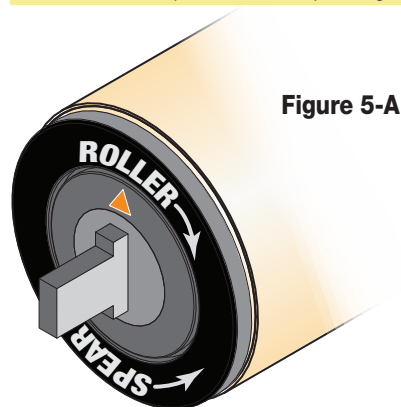

Figure 5-A
1. Orient the triangular shaped arrow on the end of the device to point UP (Fig. 5-A). This ensures there are zero pre-rotations on the device.